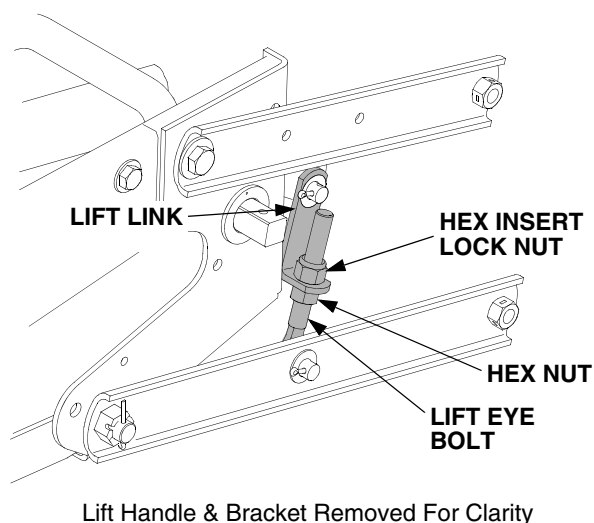

Figure 27
2. Loosen the hex insert lock nut at the top of one adjustable eyebolt link. Refer to Figure 27.
3. Thread the hex nut beneath the lift link up the eyebolt to lengthen the lift link assembly. Lengthen the lift link assembly only as needed to eliminate the drive shaft contact. Retighten the hex insert lock nut after adjusting. See Figure 27.